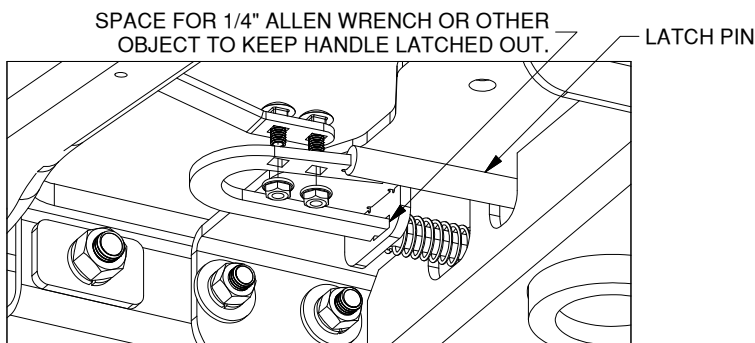

Figure E2: View looking up at latch mechanism of center section.
2. **Lock out Latch Pin.** Retract the latch pin of the center section and lock it out by pushing the mechanism toward the cab, see Figure E2. In order to prevent the mechanism from latching while attaching the handle, place a 1/4" allen wrench, thick piece of wire, or other object into the space shown on the mechanism to prevent it from latching unexpectedly, see Figure E2.
3. **Secure Handle.** Move the handle so that the end with the holes is in a location with clearance to insert the 5/16" carriage bolts. Insert the bolts into the handle holes. Next position the handle above the latch mechanism, and insert the bolts through the holes in the latch mechanism. Secure these bolts with the 5/16" locking flange nuts, see Figure E2. Remove the object that is preventing the mechanism from latching and allow the pin to latch.